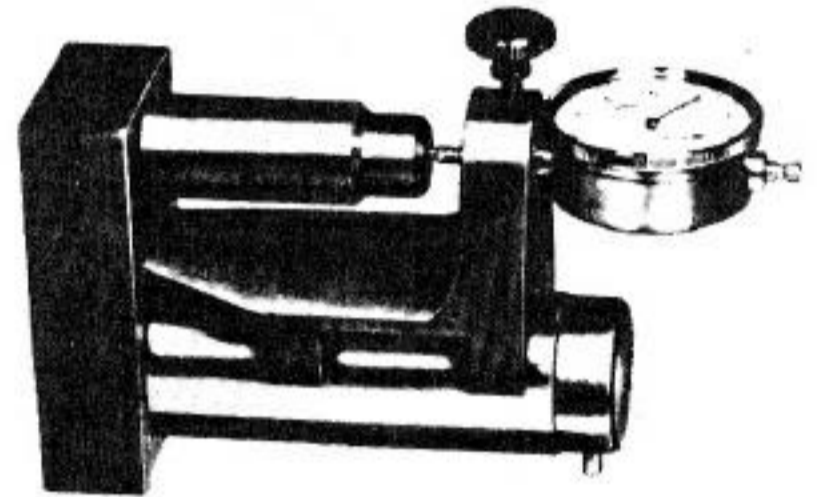

Fig. 11-29. Dial gauge on setting block, set to zero with 1-mm (.040-in.) preload.
1. Place the dial gauge in the holder on the setting block, as in Fig. 11-29. Set a 1-mm preload and then zero the gauge.